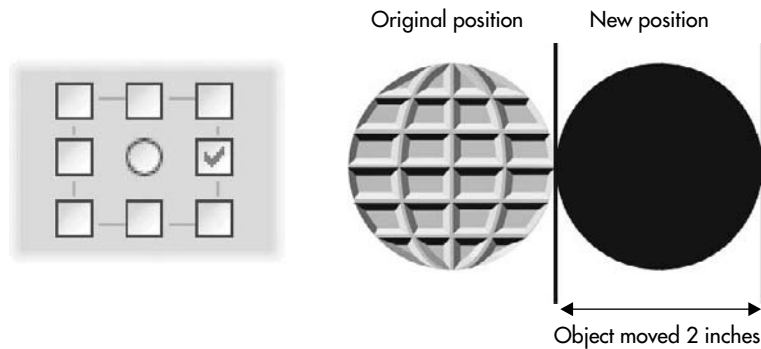

FIGURE 8-10 This object was precisely moved by applying a Position transformation.
Options for the Position page enable you to move your object selection a specified distance, either *vertically* (V), *horizontally* (H), or to a specific point on your document page, as shown in Figure 8-10.